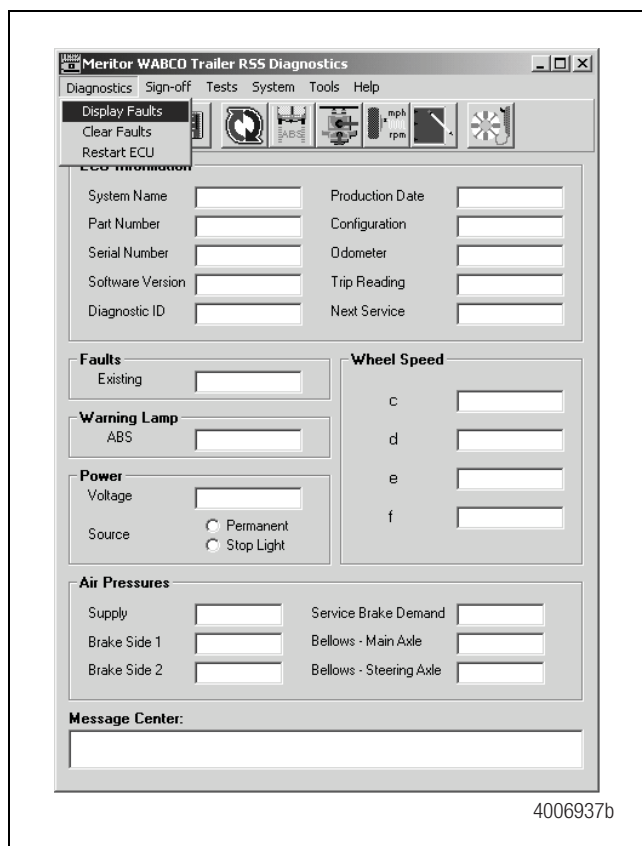

Figure 61
2. From the main screen of the Meritor WABCO trailer RSS diagnostics software, select **Diagnostics** from the top menu bar. Figure 61.